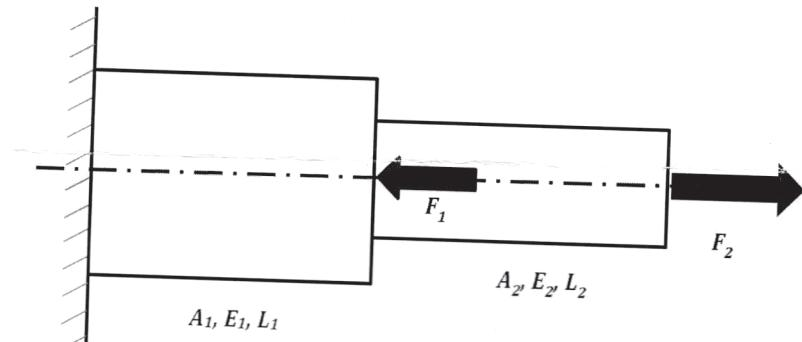

Figure 1: Qu 4
**Q4)** An axial stepped bar as shown in Figure 1, is axially loaded by force  $F_1 = 20\text{k N}$  and  $F_2 = 15\text{kN}$ . Assuming  $E_1 = E_2 = 210\text{N/mm}^2$ ,  $A_1 = 150\text{mm}^2$ ,  $A_2 = 100 \text{ mm}^2$  and  $L_1 = L_2 = 300\text{mm}$ , determine deflection, stresses in elements and reactions at nodes. [10]